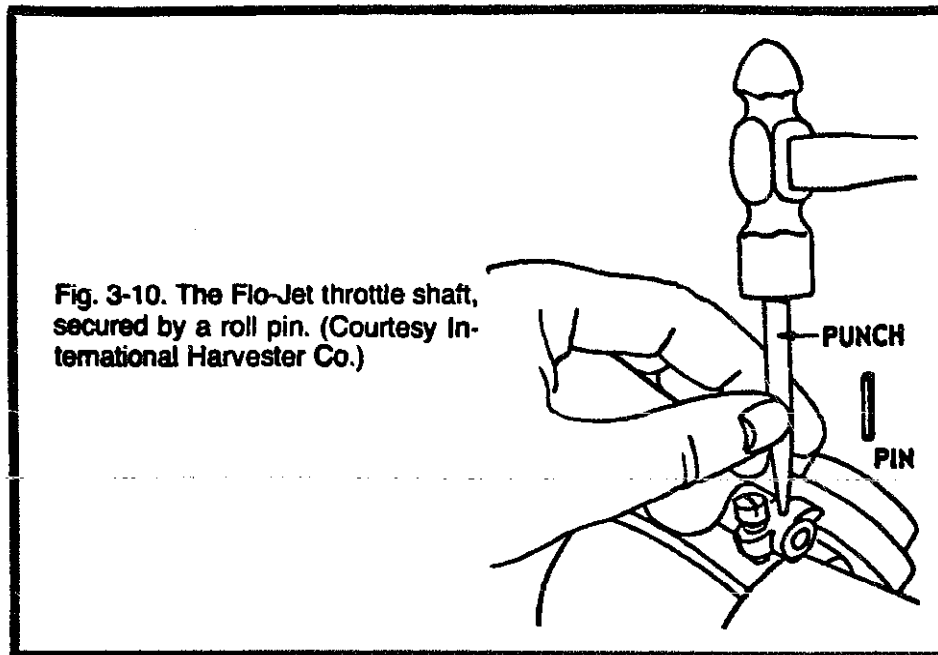

Fig. 3-10. The Flo-Jet throttle shaft, secured by a roll pin. (Courtesy International Harvester Co.)
- The throttle lever is pinned to the throttle shaft. If you wish to remove these parts (not necessary for cleaning), drive the pin out with a punch, remove the screws holding the throttle valve to the shaft, and extract the shaft (Fig. 3-10).